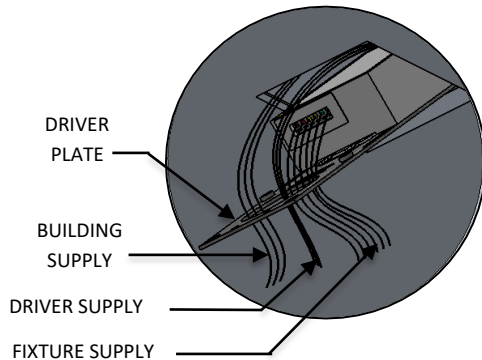

FIG. 26 - DETAIL SHOWING BUILDING SUPPLY AND DRIVER WIRE
17. Slide DRIVER PLATE into the box with the DRIVER facing up. As you slide the plate into position, make sure you pull the BUILDING SUPPLY connections through the large hole in the DRIVER PLATE as shown below in FIG. 26 and other wires will already be through the center hole.